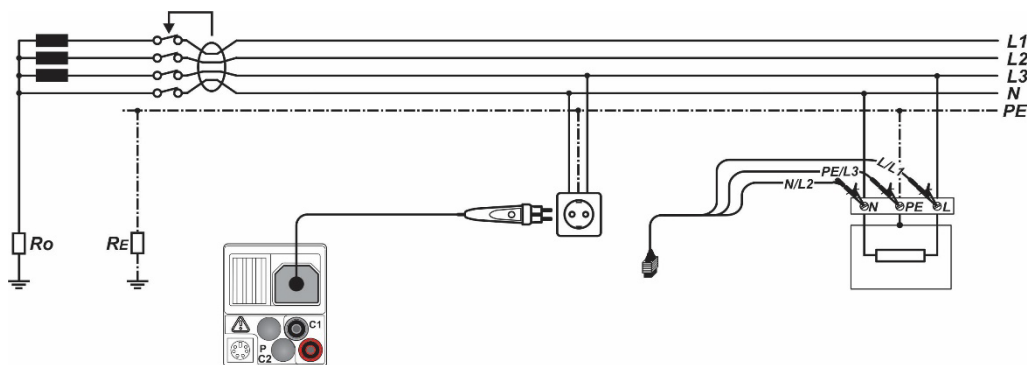

Figure 5.17: Connection of the optional "Commander" test plug (044149) and the three-wire test cable - Figure using the IT 130 as an example
- ❑ Connect the test cables to the test object (see figure 5.17).
- Connect the test cables to the test object (see figure 5.17).